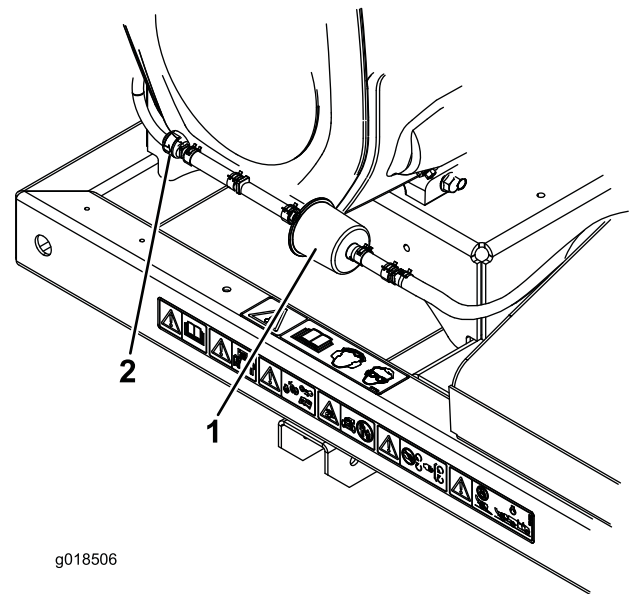

Figure 21
2. Move the spring-type hose clamps on both sides of the carbon canister purge-line filter away from the filter (Figure 21).
3. Remove and discard the carbon filter (Figure 21).
4. Install a new filter into the hose with the arrow on the filter pointing towards the check valve and secure it with the hose clamps (Figure 21).